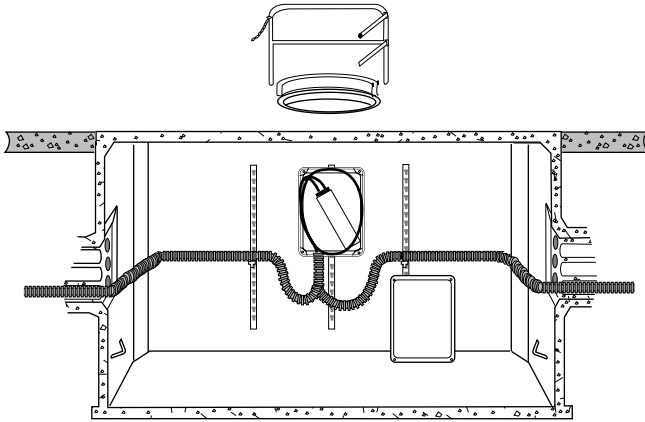

Figure 19 Slack storage in an enclosure
**6.25** Store coiled splicing slack in the splicing manholes so that it is not likely to be damaged during later work in the manhole. If possible, store the slack in an enclosure designed to store splicing slack and a splice closure (Figure 19). Place an end cap on any bare cable ends to prevent moisture intrusion.